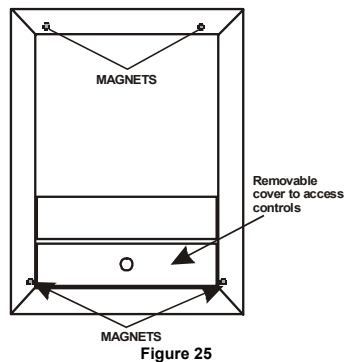

Figure 25
2. The fascia is held on by four magnets. These will either be attached to the trim or supplied loose in a separate envelope. Position them as shown in **Figure 25**.